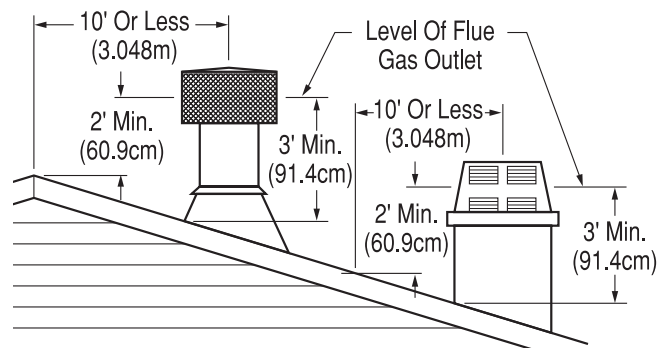

Figure 21- 10 Foot Rule
All chimney terminations must extend a minimum of 3 feet above the highest point where it passes through the roof and must be at least 2 feet above roof with a 10 foot horizontal span (see Figure 21).
5. Add next sections of pipe until end penetrates roof line. Check to see that proper clearances are maintained. Extend chimney by adding sections of double wall pipe until pipe is minimum of 30" above highest point of roof cutout. Termination and chimney must extend a minimum of 36" above highest point where it passes through the roof (see 10-Foot Rule and Figure 21, page 9).